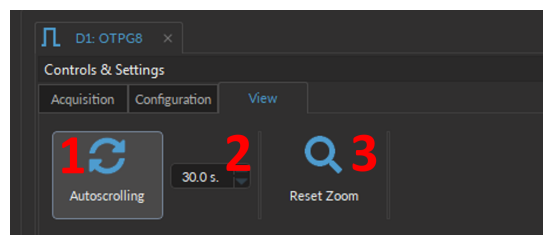

Figure 8.8: View Tab
The different buttons and fields of the **View Tab** are shown in Figure 8.8 and sets the graph zoom to the value of choice, specified in the text-box.
1. The **Autoscrolling** button (Fig. 8.8, 1), when enabled, makes the graphs scroll as new data appears. The duration (in seconds) kept on display is controlled by the field beside the button.
2. The **Zoom range** (Fig. 8.8, 2) sets the graph zoom to the value of choice, specified in the text box.
3. The **Reset Zoom** button (Fig. 8.8, 3) resets the horizontal axis of all graphs displayed in the **Acquisition View** to the duration chosen in the **Zoom range** field.